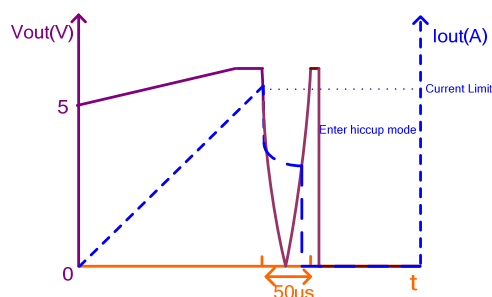

Figure 8: Over-Current Limit for CR Load
After the soft start finishes, if the USB output voltage is lower than 3.5V and lasts longer than 50 μ s, the MPQ4487 enters hiccup mode without having to wait 5ms (see Figure 8). This can prevent an abnormal thermal rise during the constant resistor (CR) load over-current case.